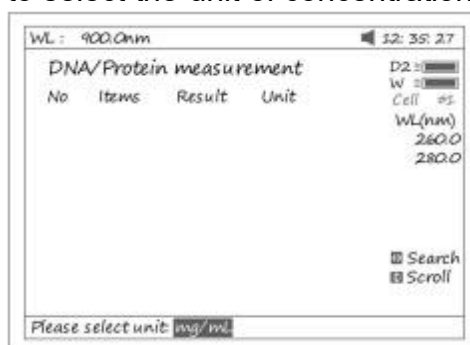

Fig 64
- Press **【F3】** to select the unit of concentration (Fig 64).